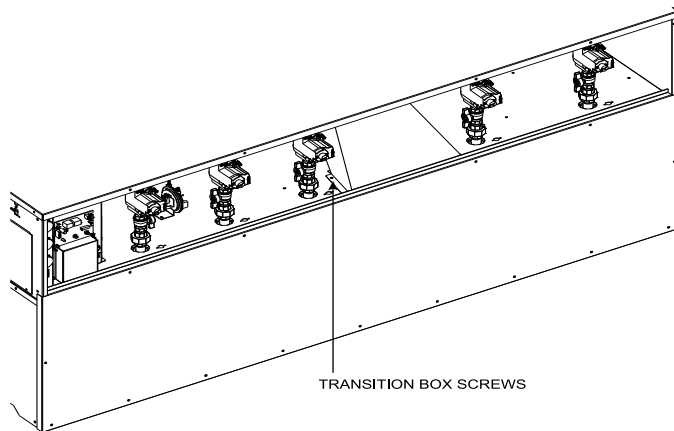

Figure 46 - Loosening the Transition Box Screws, 1,435,000, 1,795,000 and 2,065,000 Btu/hr Models Only
2. Slightly loosen the screws that attach the fan transition box to the metal base (see Figure 46).